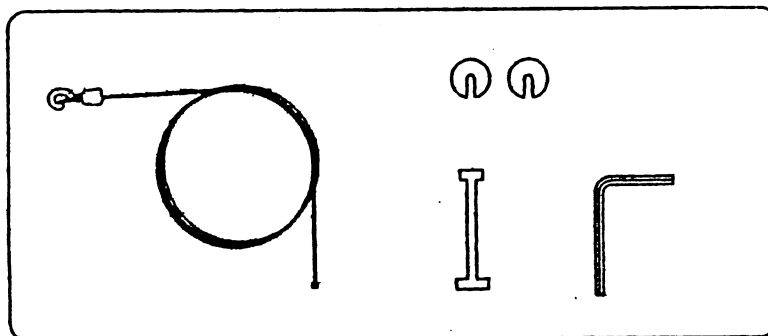

Figure 16
- (a) Check if the following parts are all available in a wire rope kit. (See Fig. 16)